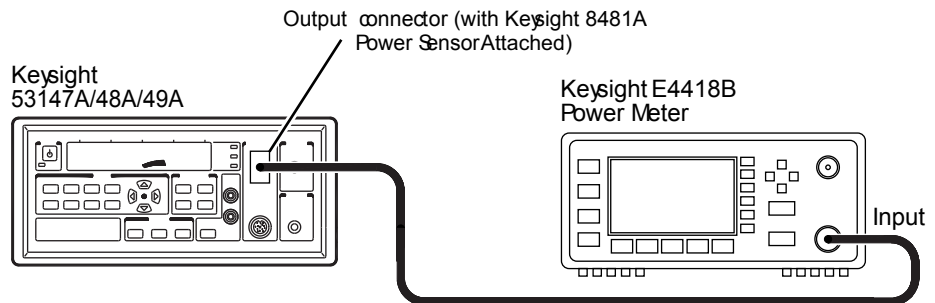

Figure 2-5 Power Meter Reference Level Test Setup
- 6 Disconnect the Keysight 8481A Power Sensor from the Keysight E4418B Power Meter, and immediately connect it to the Power **OUTPUT** connector on the Keysight 53147A/148A/149A (see Figure 2-5).